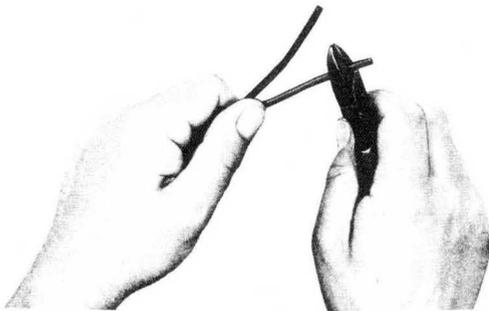

Fig. 2—Nicking Insulation
SPECIAL CASE (FIG. 2)	B
(2) Nick insulation circumferentially 15/16-inch from end (Fig. 2). *Do not nick conductors.*